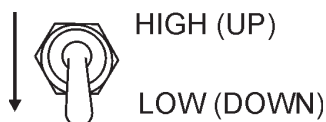

Figure 64. Engine Speed Switch (Low)
2. Place the engine speed switch in the "LOW" position (Figure 64).